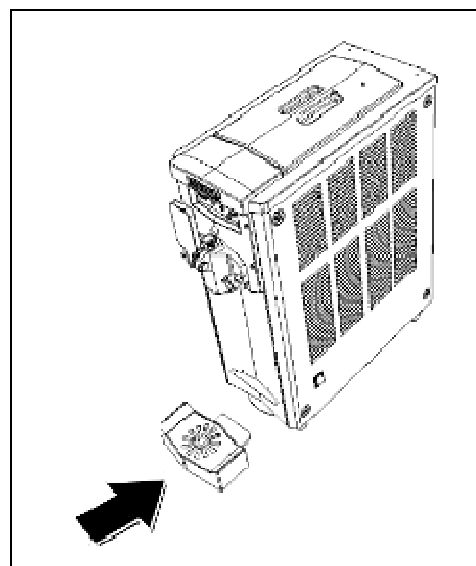

**Fig. 24**
- **O**nce all the components of the freezing cylinder have been refitted, place all components of the top tank in the same position they occupied before the sanitisation (fig. 24).